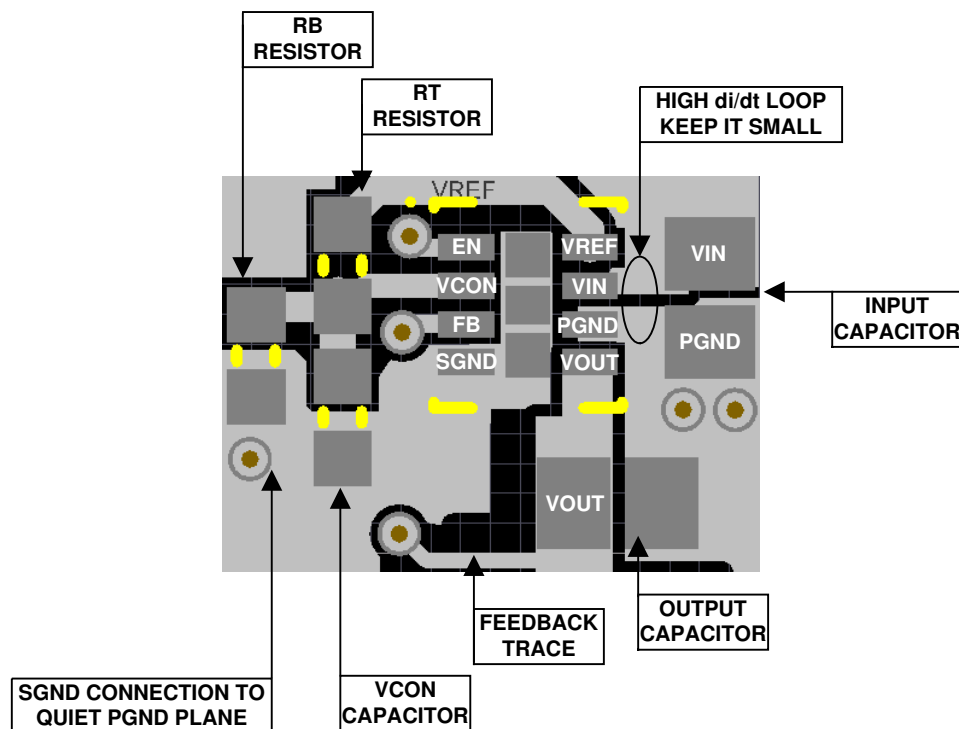

Figure 8-26. Example Top Layer Board Layout
The LMZ10501 integrates the inductor and simplifies the DC/DC converter board layout. Refer to the example layout in Figure 8-26. There are a few basic requirements to achieve a good LMZ10501 layout.
2. Place the V_{CON} filter capacitor C_{VC} and the R_{B} R_{T} resistive divider as close as possible to the V_{CON} and SGND pins. The C_{VC} capacitor (not R_{B}) must be the component closer to the V_{CON} pin, as shown in Figure 8-26. This allows for better bypass of the control voltage set at V_{CON} .